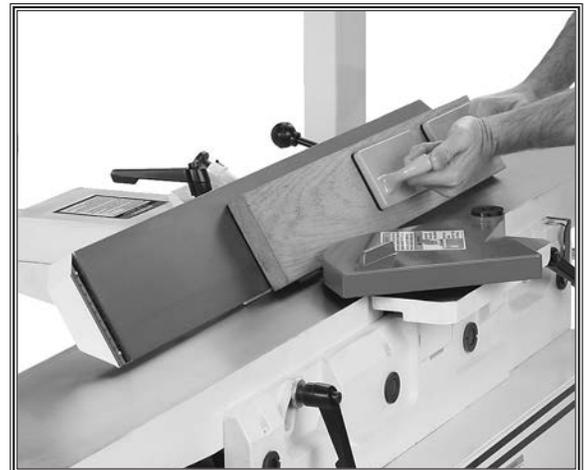

Figure 33. Typical bevel cutting operation.
7. With a push block in your leading hand, press the workpiece against the table and fence with firm pressure, and feed the workpiece over the cutterhead, as in **Figure 33**.